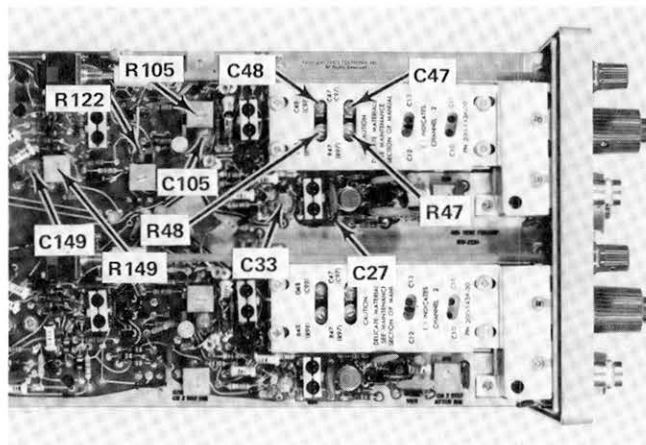

Fig. 5-23. Location of CH 1 High-Frequency Compensation adjustment.
f. ADJUST—C27, C33, C105, R105, C122, R122, C149, and R149 (see Fig. 5-23) with a low-capacitance screwdriver, for the best flat-top waveform.
n. ADJUST—R47 and C47 (see Fig. 5-23) for optimum risetime and aberrations.
u. ADJUST—R48, and C48 (see Fig. 5-23) for optimum risetime and aberrations.